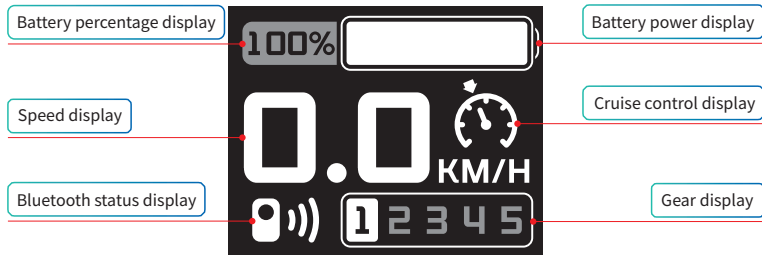

Figure 4.3.3.1
- (1) **Battery Percentage Display:** Refer to Figure 4.3.3.1
- (2) **Speed Display:** Refer to Figure 4.3.3.1
- (3) **Bluetooth Status Display:** Refer to Figure 4.3.3.1